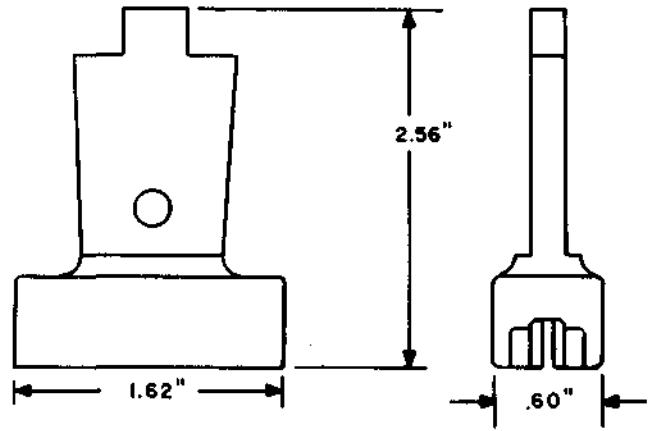

Fig. 7—788C1 Inserter Tool
2.07 788C1: The 788C1 inserter tool (Fig. 7) is used with a 788A1 tool handle. The 788C1 tool is used for inserting and trimming off up to five pairs of conductors at a time while being installed in an 88-type wiring block.